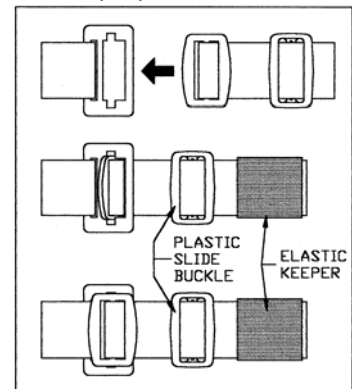

Figure 1
- Connect the interlocking buckles as shown in figure 1.